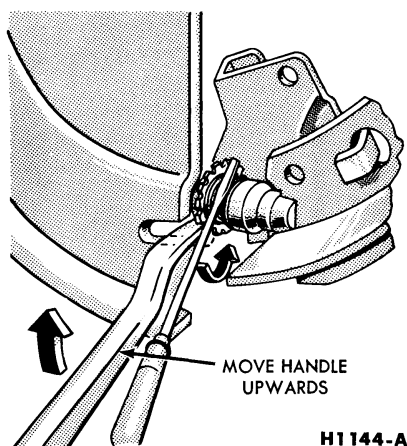

FIG. 6—Backing Off Brake Adjustment
2. Insert a narrow screwdriver through the brake adjusting hole at the inner side of the brake carrier plate, and disengage the adjusting lever from the adjusting screw. While holding the adjusting lever away from the screw, back off the adjusting screw with the brake adjusting tool (Fig. 6). **Be very careful not to burr, chip, or damage the notches in the adjusting screw; otherwise the self-adjusting mechanism will not function properly.**
2. Remove the hub cap and wheel. Remove the three Tinnerman nuts and remove the brake drum. Insert a narrow screwdriver through the brake adjusting hole in the carrier plate, and disengage the adjusting lever from the adjusting screw. While holding the adjusting lever away from the adjusting screw, back off the adjusting screw with the brake adjusting tool (Fig 6). **Be very careful not to burr, chip, or damage the notches in the adjusting screw; otherwise, the self-adjusting mechanism will not function properly.**